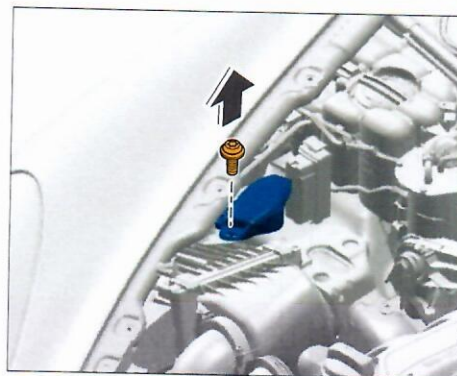

Figure 5
- 1.4 Unscrew fastening screw ⇒ *Figure 5 -arrow-* on the filler tube for the windscreen washer system reservoir.